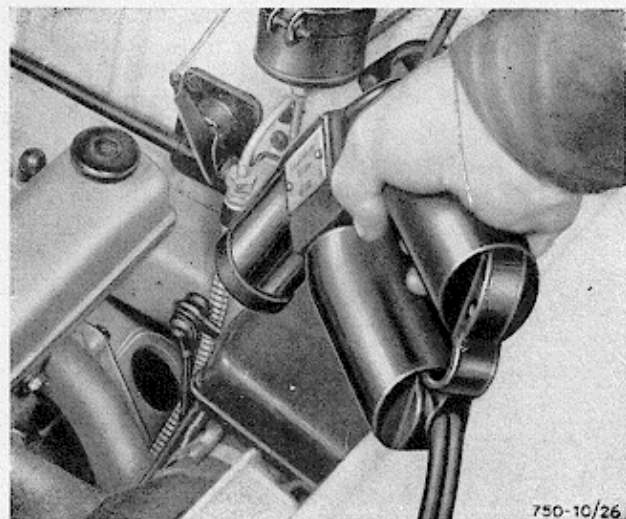

Fig. 30 - Timing the distributor with a stroboscopic gun
- Run the engine from 5,000 to 5,200 r.p.m. and direct the light from the gun on to the flywheel (Fig. 30) through the orifice provided;